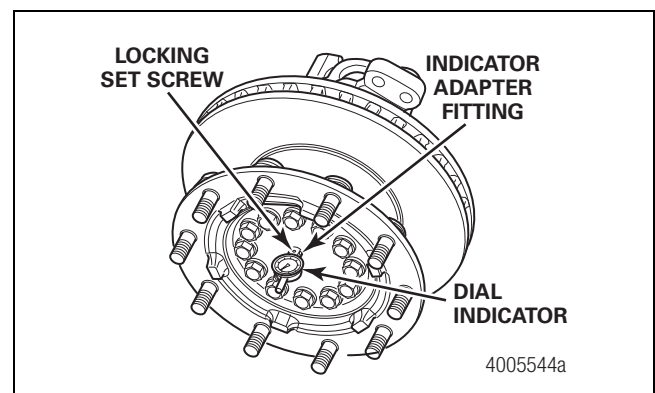

Figure 3.5
- Attach the dial indicator. Loosen the locking set screw and slowly slide the dial indicator through the fitting hole. Position the dial indicator against the hub face and tighten the locking set screw as the needle starts moving. Set the dial indicator to ZERO. Do not rotate the wheel end. Figure 3.5.